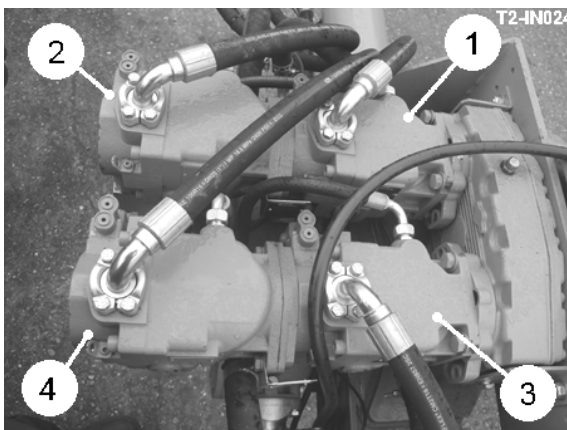
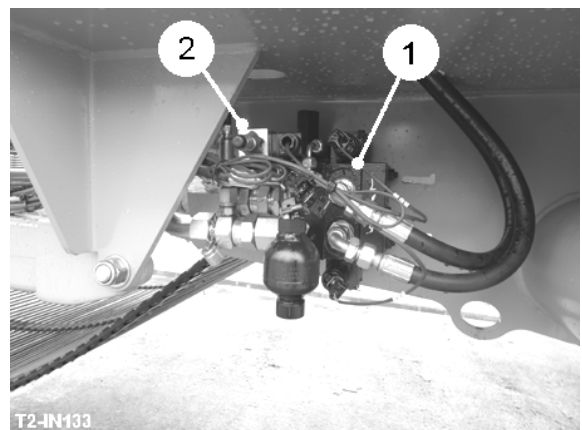
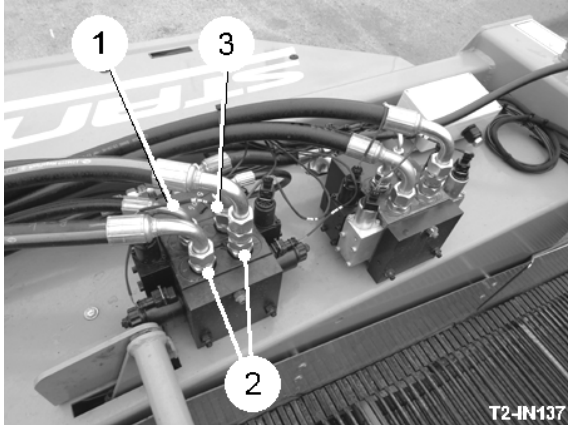
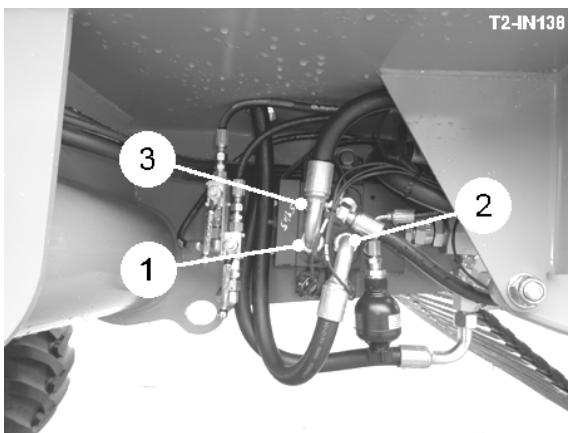

Fig 27
Fig 28
Fig 29
Fig 30
The pump (item 1, fig 27) supplies the powered axle. From the pump the feed is into the valve (item 1, fig 28). The axle drive is switched for forward and reverse from the slave box or the touch-screen. The **+** button overrides the external pressure control valve (item 2, fig 28) and brings the maximum system pressure to the pump maximum.
The pump (item 2, fig 27) powers the rear separator unit. From the pump the feed is into the valve (see fig 29). ON/OFF control and scroll speed is proportionally controlled from the touch-screen. The clod rollers are in a series circuit fed from a double-acting valve allowing the clod roller set to be reversed. This also enables the operator to reverse the rollers to eject a blockage. The remaining valve section feeds the Omega transfer unit. A pressure transducer mounted next to the circuit filter monitors the working pressure within the circuit.
The pump (item 3, fig 27) powers the digger web, sieving web and rotary agitators. From the pump the feed is into the valve (see fig 30). ON/OFF and speed control is from the touch-screen. The digger web speed should be adjusted to give a consistent crop take-away from the shares, and the sieving web speed should be adjusted to give a consistent crop take-away from the digger web. The agitators should be used to the minimum to separate the loose soil from the crop.
The pump (item 4, fig 27) powers the front separator unit. From the pump the feed is into the valve (see fig 31). On/off control and scroll speed is proportionally controlled from the service terminal. The clod rollers are in a series circuit fed from a double-acting valve allowing the clod roller set to be reversed. This also enables the operator to reverse the rollers to eject a blockage. A manual reversing valve is fitted to each clod roller motor allowing individual rotations to be set.